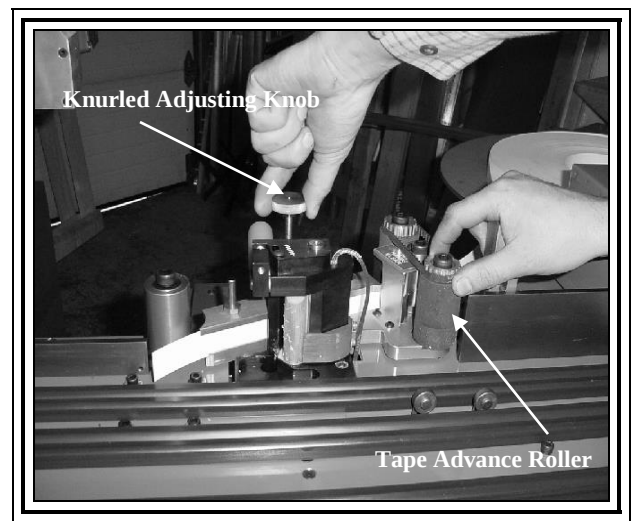

FIGURE 10
2. Adjusting Tape Guide (FIGURE 10)